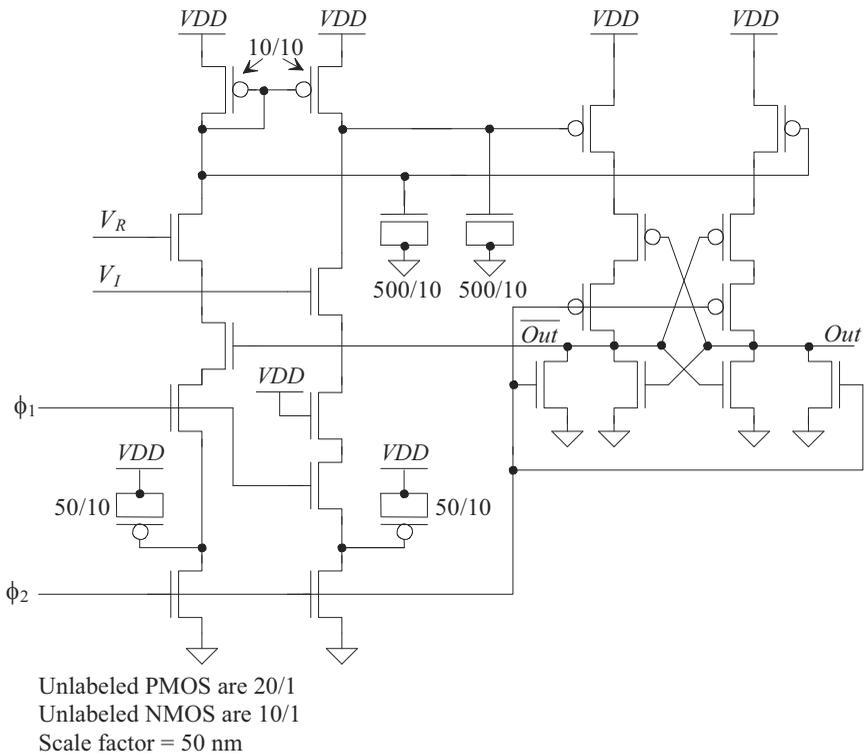

Figure 17.44 Simplifying the DSM sensing circuit, see Problem 17.13.
- 17.13** Simulate the operation of the circuit seen in Fig. 17.44. Do the comparator outputs make full logic transitions? Are glitches a concern? Why? How do the simulation results compare to the results seen in Fig. 17.37? Note that the outputs of the comparator go low each time ϕ_2 goes high so that \overline{Out} can be used to clock a counter directly.